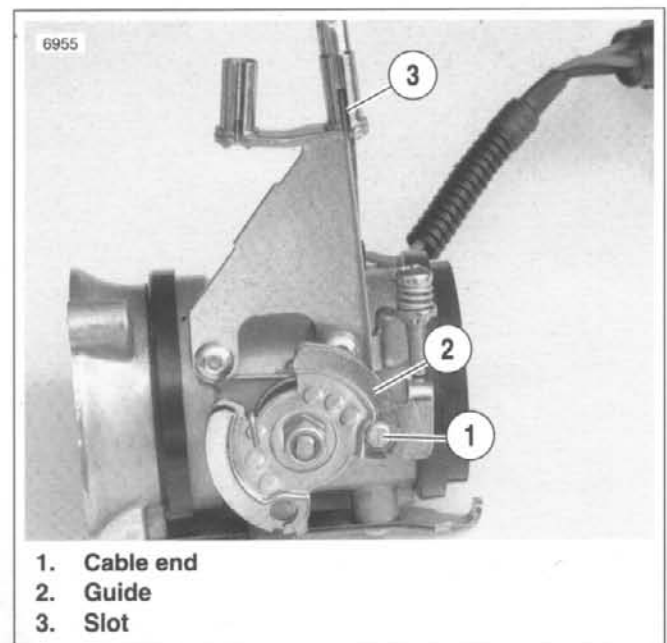

Figure 4-105. Idle Control Cable Installation
3. See Figure 4-105. Attach both throttle cables. Add free-play to cables if necessary.
- a. With the manifold assembly close to the right side of the bike but not fully installed, place idle control cable end (1) into hole on guide (2). Wrap the cable into the channel.
- b. Place the end of the cable housing into the bracket by sliding the cable through the slot (3). Adjust the cable so it will not dislodge from the bracket.